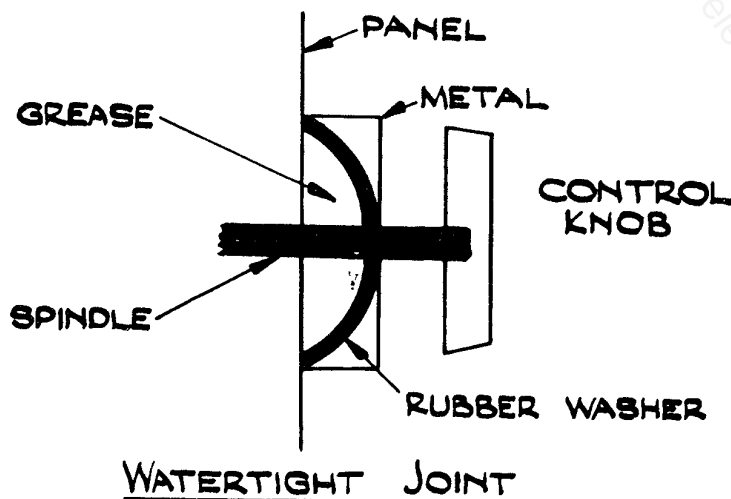

FIGURE 75
- (ix) If it is ever necessary to remove a control knob from the front panel, before replacing it make sure that the concavity in the rubber washer is filled with Grease, Kingsworth, 1026, to make a watertight and dustproof joint. See Figure 75.